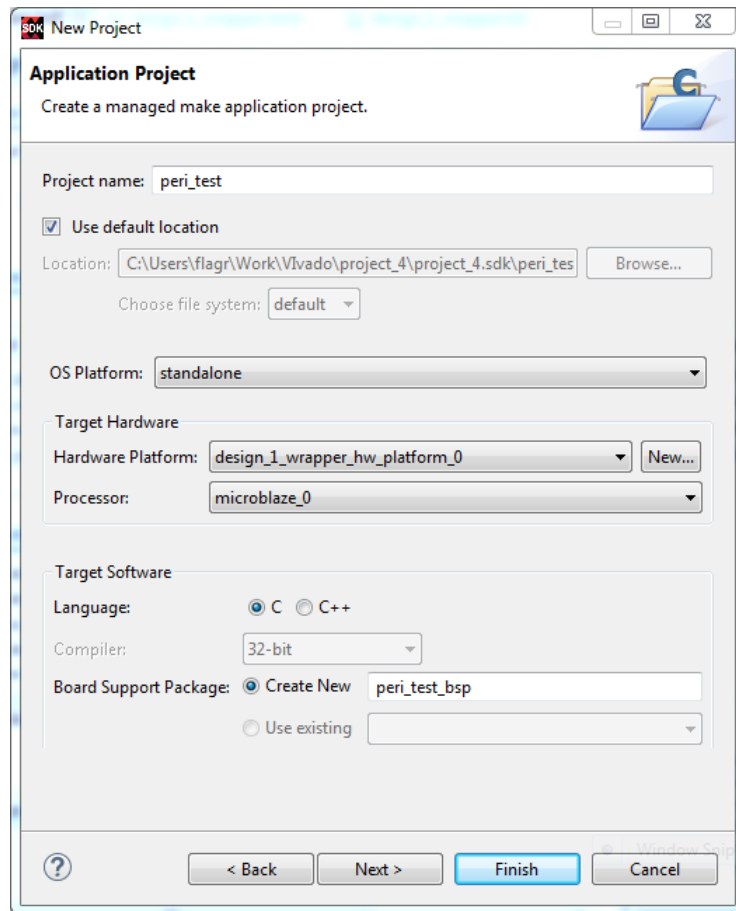

Figure 39: New Project: Application Project Wizard
4. Type a name (such as **peri_test**) for your project and choose standalone as OS platform, as shown in Figure 39.